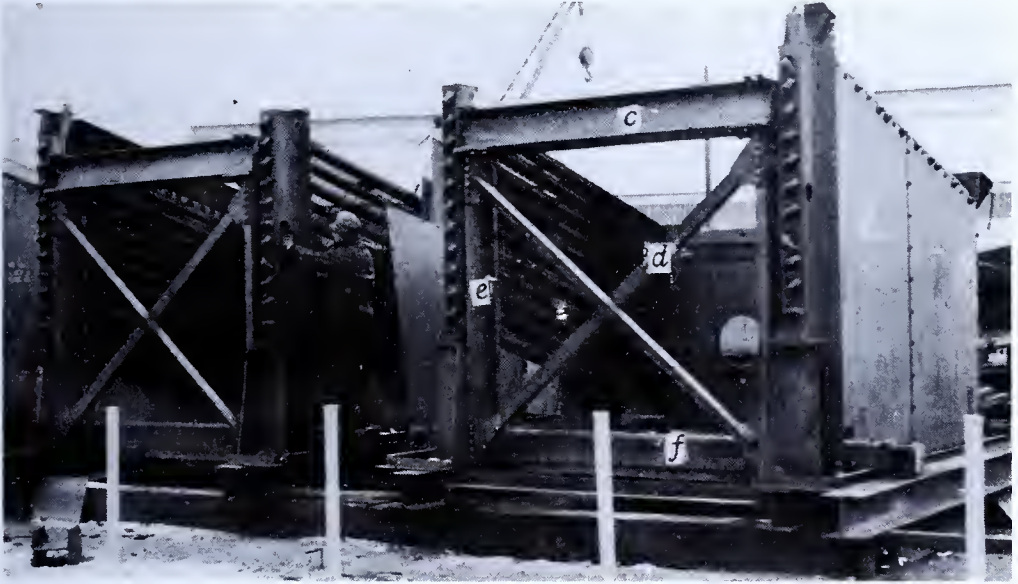

FIG. 458 — *Rear of Boiler Ready for Steam-Generating Sections. Channel Supports (e); I Beam (c); Rear Angle Brace (d); Rear Water Wall Header (f).*
11. With crane, place structural channel on rear water-leg pc. mk. UC right, and bolt up with 6-B-18s. Then place structural channel, pc. mk. UC left, and follow same procedure as above. See Fig. 458, at *e*.
12. With crane, place diagonal angle braces at rear boiler, pc. mk. UA, as shown on Fig. 458 at *d*, and bolt into place with 6-B-16s.
13. With crane, place rear I-beam header support, pc. mk. U1, and bolt into place using 6-B-16s. See Fig. 458 at *c*. Also install 5-B-28s in the holes provided. Make sure that these holes have been tapped before trying to install the bolts.
15. With crane, place rear water wall header inside pc. mk. BP3, with tube holes up. See Fig. 458 at *f*.